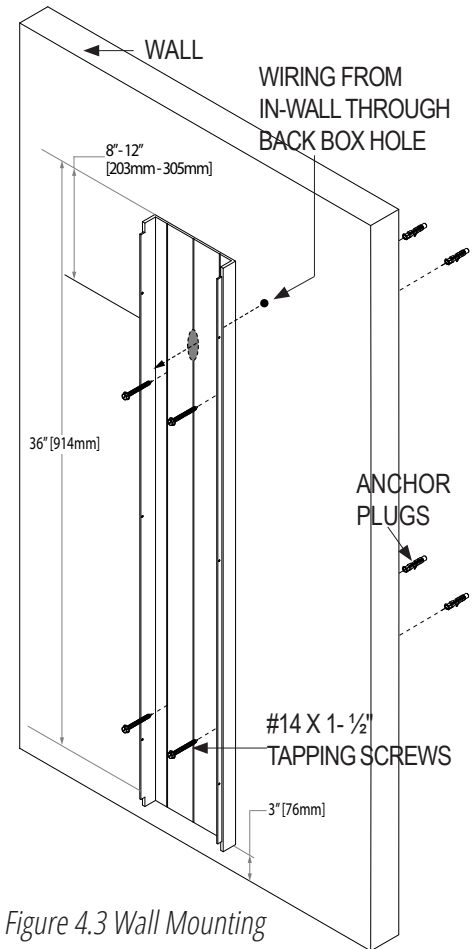

Figure 4.3 Wall Mounting
12. Secure the Back Box to the wall with the #14 x 1- $\frac{1}{2}$ " tapping screws provided. (Figure 4.3 and 4.4)
12. Secure the Back Box to the frame with the $\frac{1}{4}$ "-20 machine screws. (Figure 4.3 and 4.4)